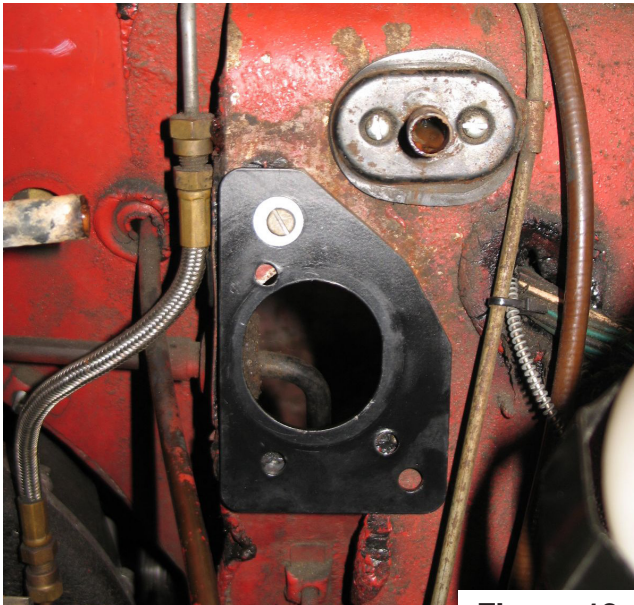

Figure 13
- 13) **If your vehicle has a split column skip to step 16.** If your vehicle has a rigid column it is time to install the upper column kit # 667-249. Find the firewall plate bracket, (3) 1/4" bolts, nuts and lock washers in the kit. Hold the plate up to the fire wall (engine compartment side). Line the upper hole in the plate bracket up with the small hole in the firewall for the screw that secured the steering column boot. If your vehicle doesn't have this screw hole, hold the plate up as pictured in Figure 13. The side of the bracket should be parallel to the edge of the firewall. The large hole in the firewall and plate bracket should be somewhat concentric. Mark and drill the holes pictured and use the hardware included in the kit to install the plate. Use super glue to secure the bushing. This will keep the bushing in place when you install the steering column.